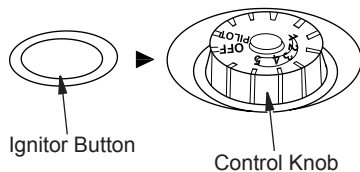

Figure 20 - Control Knob in the OFF Position
- Wait five (5) minutes to clear out any air. Then smell for gas, including near the floor. If you smell gas, STOP! Follow "B" in the safety information on page 15. If you do not smell gas, go to the next step.
- Turn control knob counterclockwise to the PILOT position. Press in control knob for five (5) seconds (see Figure 20).